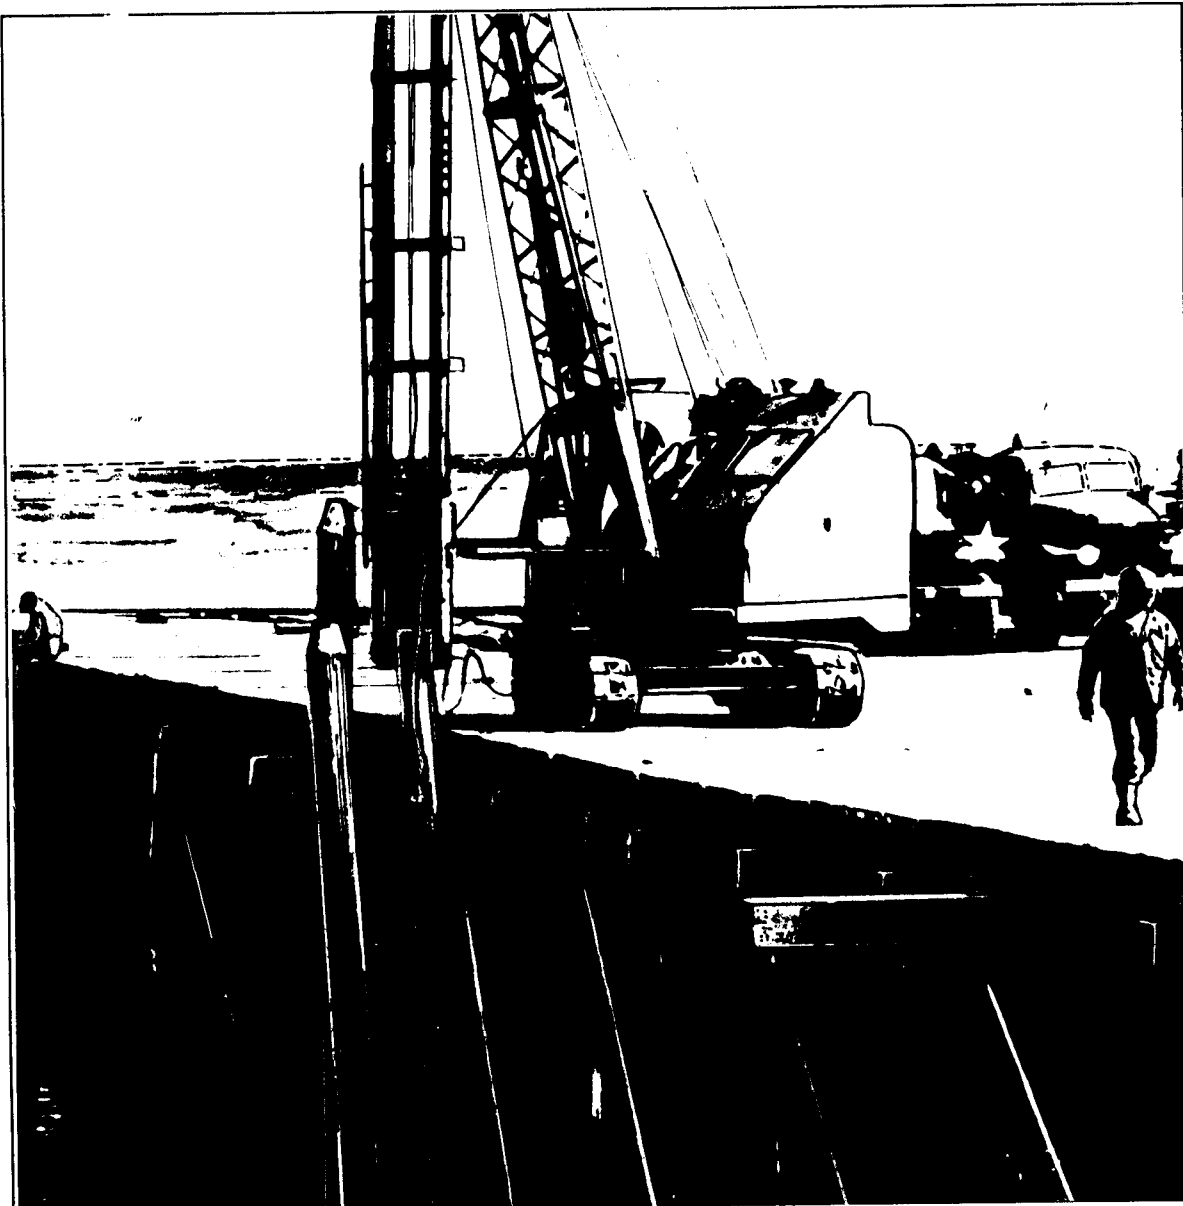

Figure 9-9. Mooring Piles
* They are placed at intervals along the face of a wharf without bollards or other items of mooring hardware. A maximum of 3 piles of each cluster may extend 3 feet or more above the wharf deck (Figure 9-9).